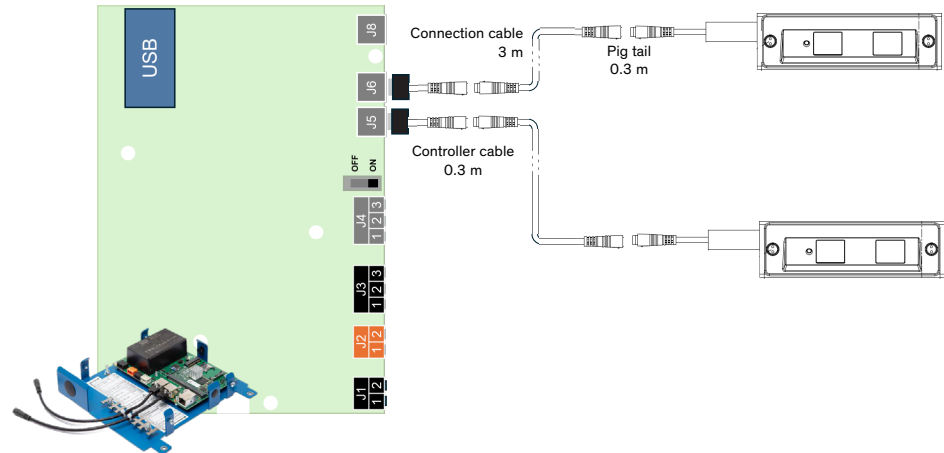

Figure 21: Wiring of CabSens 3D sensors to the CabSens controller
- ▶ The Cabins 3D sensors shall be connected to the CabSens controller (Figure 4 and Figure 21).
The principle wiring of the CabSafe 3D sensors to the CabSens controller is displayed in Figure 21.